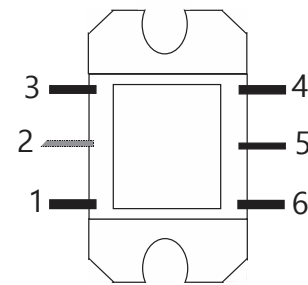

Figure 4
4. Install IC1 using Figure 4 as a guide. Pin #2 of IC1 is the input pin (angle cut lead) and should be aligned with C1. Use a light coating of thermal compound and apply to both the enclosure and IC1. Then attach with two 3-48 screws. Center the input and output pins on the RF lines. There should be enough tolerance in the mounting holes to achieve a perfect alignment. If not, verify that the pins are not bent out of position in IC1. If alignment cannot be achieved, loosen the PCB mounting screws and align as a complete assembly, connector pins, board and IC1. BUT-- we do not expect it to be this difficult unless a machining process was incorrect. When all lined up, solder connector pins and the pins of IC1. Apply slight pressure down on IC1's pins with a small flat blade screwdriver or other tool to be sure of flat positive contact to the PCB.